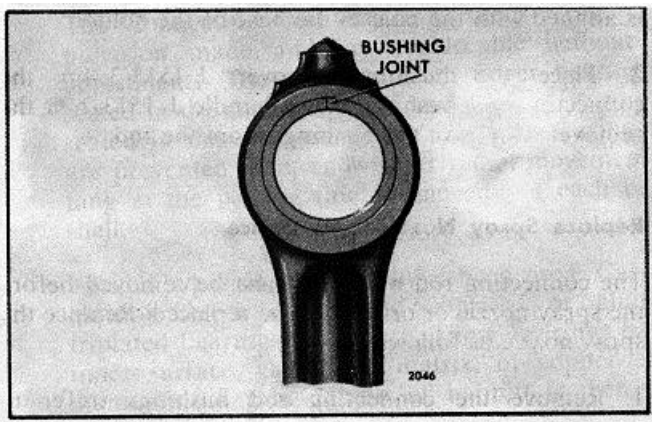

FIG. 9 - Location of Bushing Joint
2. Start a new bushing straight into the bore of the connecting rod, with the bushing joint at the top of the rod (Fig. 9).